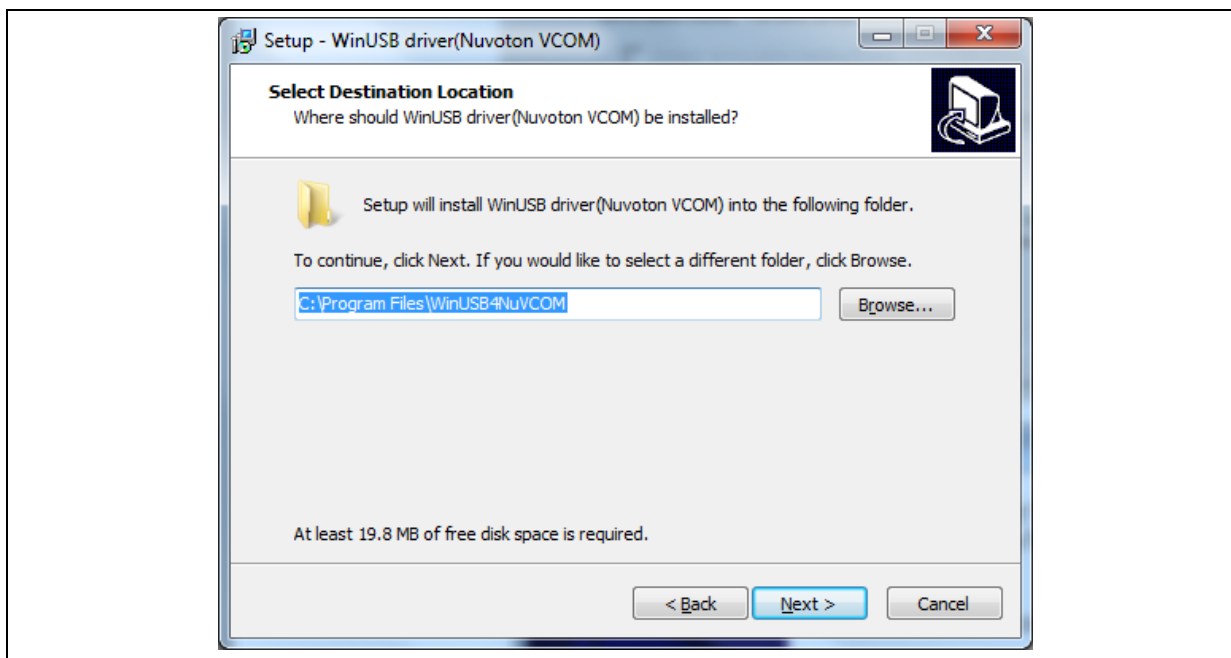

Figure 2-2 WinUSB4NuVCOM Driver Setup (2)
Step 2: Press "Next". This screen tells you that the WinUSB4NuVCOM 1.0 driver is about to be installed (Figure 2-2).